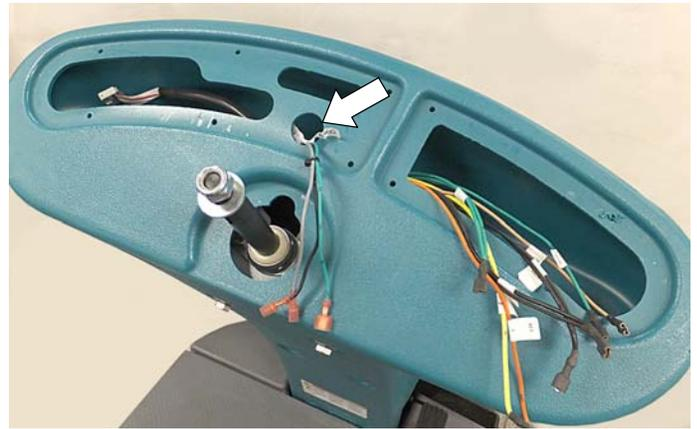

Fig. 7
- Re-install the steering column housing using the 4 mounting screws. Route the LED wires through the small round hole as shown (Figure 7).